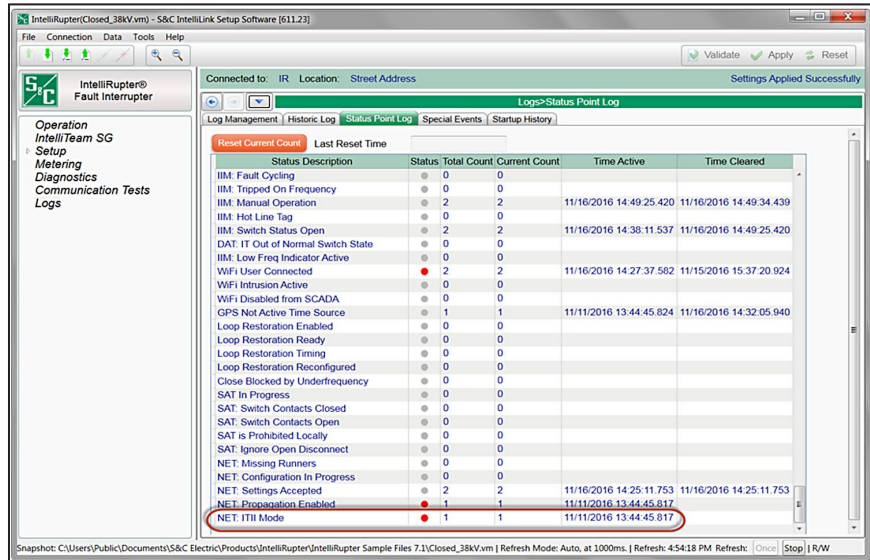

Figure 6. The *Logs>Status Point Log* screen – NET: ITII Mode entry.
STEP 3. Go to the *Logs>Status Point Log* screen, and find the status description for NET: ITII Mode and make sure it is active. See Figure 6.